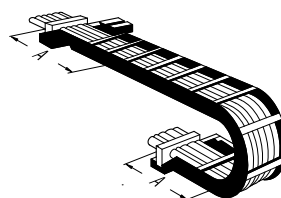

Fig. 3
8. Fasten the cables on both ends of the chain (see Fig. 3).
10. Make sure that the cables cannot be moved up to the fastening point. Make sure that the distance from the end point of the bending movement to the fastening is as large as possible. At least, however, fastening distance "A" (see Fig. 3 + 4).